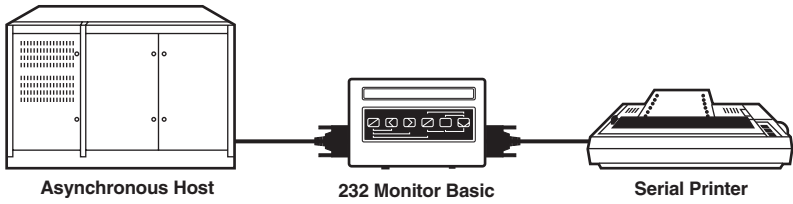

Figure 5-1. Troubleshooting a serial printer.
Procedure—Connect the Monitor between the computer and the printer (see Figure 5-1).
1. Disconnect the printer cable from the printer. Attach the Monitor to the cable and then either plug the Monitor directly into the printer, or, if it is more convenient, use a cable, as in Figure 5-1.